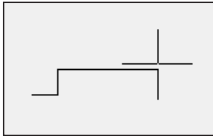

Figure 4-10: Drawing with direct distance entry enables you to specify coordinates by typing in a length after you move the pointer in the desired direction.
6. Move the mouse horizontally to the right and then type `2` ↵. Your drawing should look like Figure 4-10.